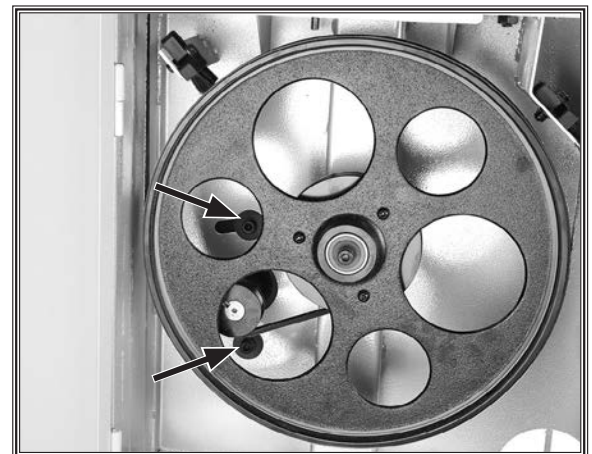

Figure 87. Location of motor mount cap screws.
4. Loosen both motor mount cap screws (see **Figure 87**).